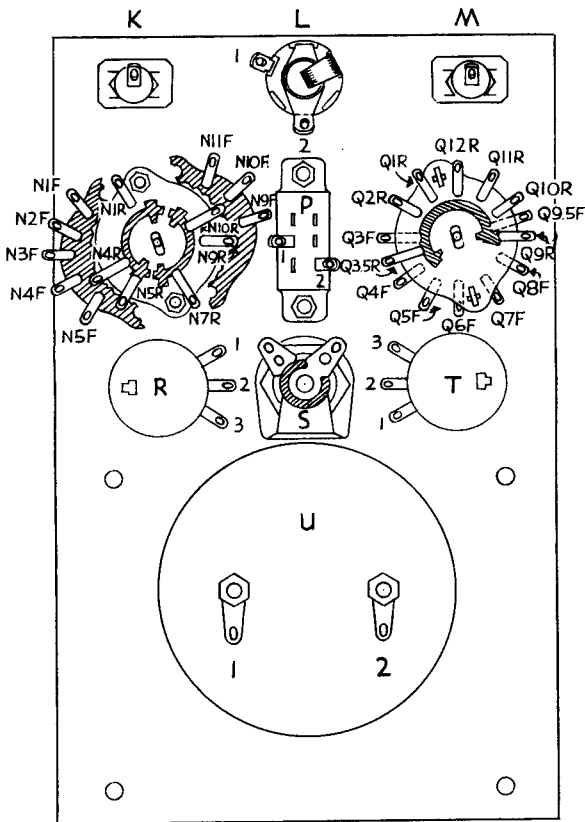

Fig. 5
Note Figure 5 for the proper placement of switches, controls, etc. on the panel. Place all contacts and lugs in the same relative positions as shown in the figure. Figure 6 shows the method to use in mounting controls and switches.
- (✓) Consult Figure 8 and mount the phone jack assembly (K17, O101, O28, O33) in position L. Be sure the positioning of lugs is exactly as shown in Figure 5, otherwise shorting could occur when the unit is placed in the case.